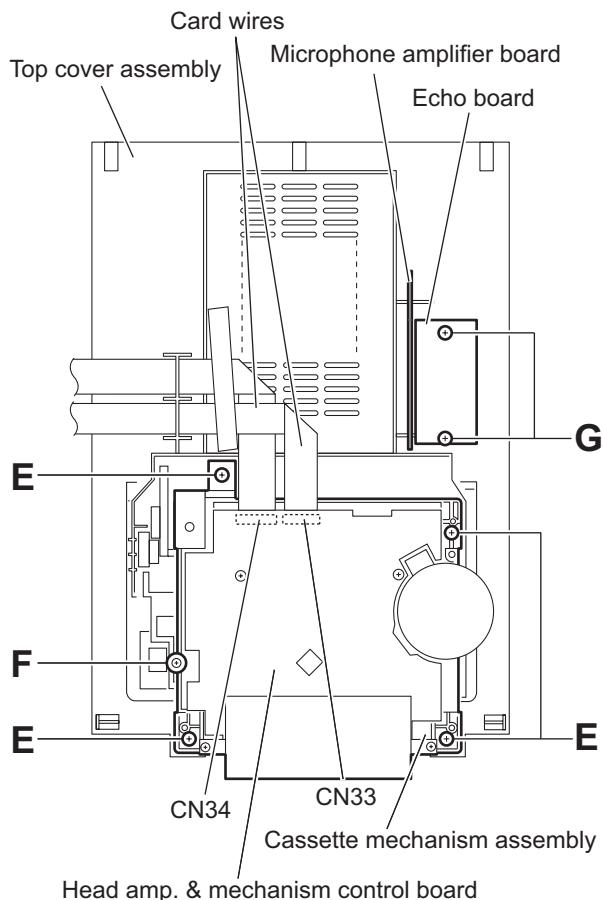

Fig.12
3.1.4 Removing the cassette mechanism assembly (See Fig.12)
- (1) From the bottom side of the top cover assembly, disconnect the card wires from the connectors (CN33, CN34) on the head amp. & mechanism control board.
- (2) Remove the four screws **E** and screw **F** attaching the cassette mechanism assembly and take out the cassette mechanism assembly from the top cover assembly.
3.1.5 Removing the microphone amplifier board (See Fig.12)